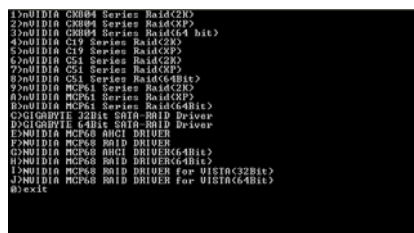
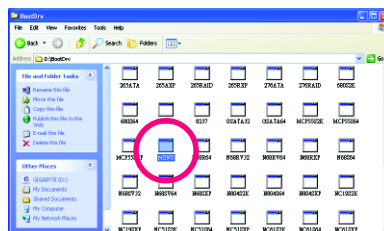

Figure 2
Figure 3
Step 2: When the controller menu (Figure 2) appears, remove the startup disk and insert the blank formatted disk. Select the controller driver by pressing the corresponding letter from the menu. In the example in Figure 2, the **NVIDIA MCP68 DRIVER** series are for the nVIDIA® GeForce 7025/nForce 630a chipset. For example, to install Windows XP (32-bit) onto the RAID drives, press <F> to select **F) NVIDIA MCP68 RAID DRIVER**; to install Windows Vista (32-bit) onto the RAID drives, press  to select **I) NVIDIA MCP68 RAID DRIVER for VISTA(32Bit)**. Your system will then automatically zip and transfer this driver file to the floppy disk. Press <0> to exit when finished.
Use an alternative system and insert the motherboard driver disk. From your optical drive folder, double click the **MENU.exe** file in the **BootDrv** folder (Figure 3). A command prompt window will open similar to that in Figure 2.